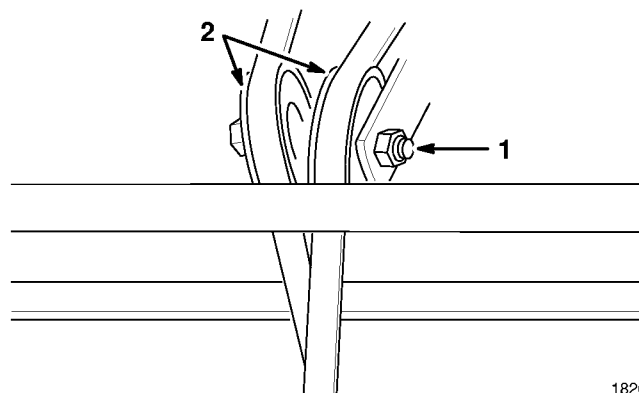

Figure 25
- Loosen nut and slide pulley until belt is at proper tension (Fig. 25).
- Cut old belt and remove. Loosen belt tightener pulleys (Fig. 25).